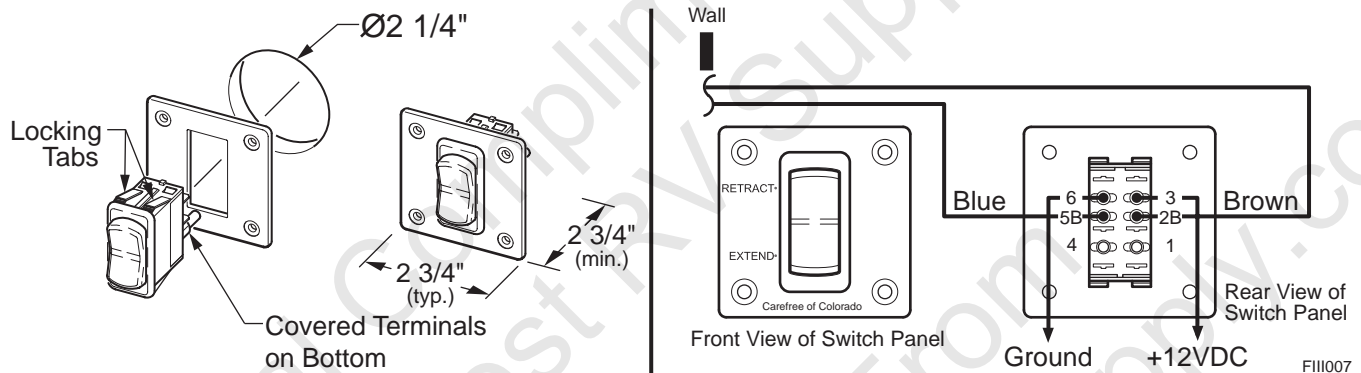

Figure 4. Switch Installation.
- (Refer to figure 4) Drill three (3) 3/16" holes through the back of the case into the mounting surface and into the structure. Use care to not drill through the inner wall.